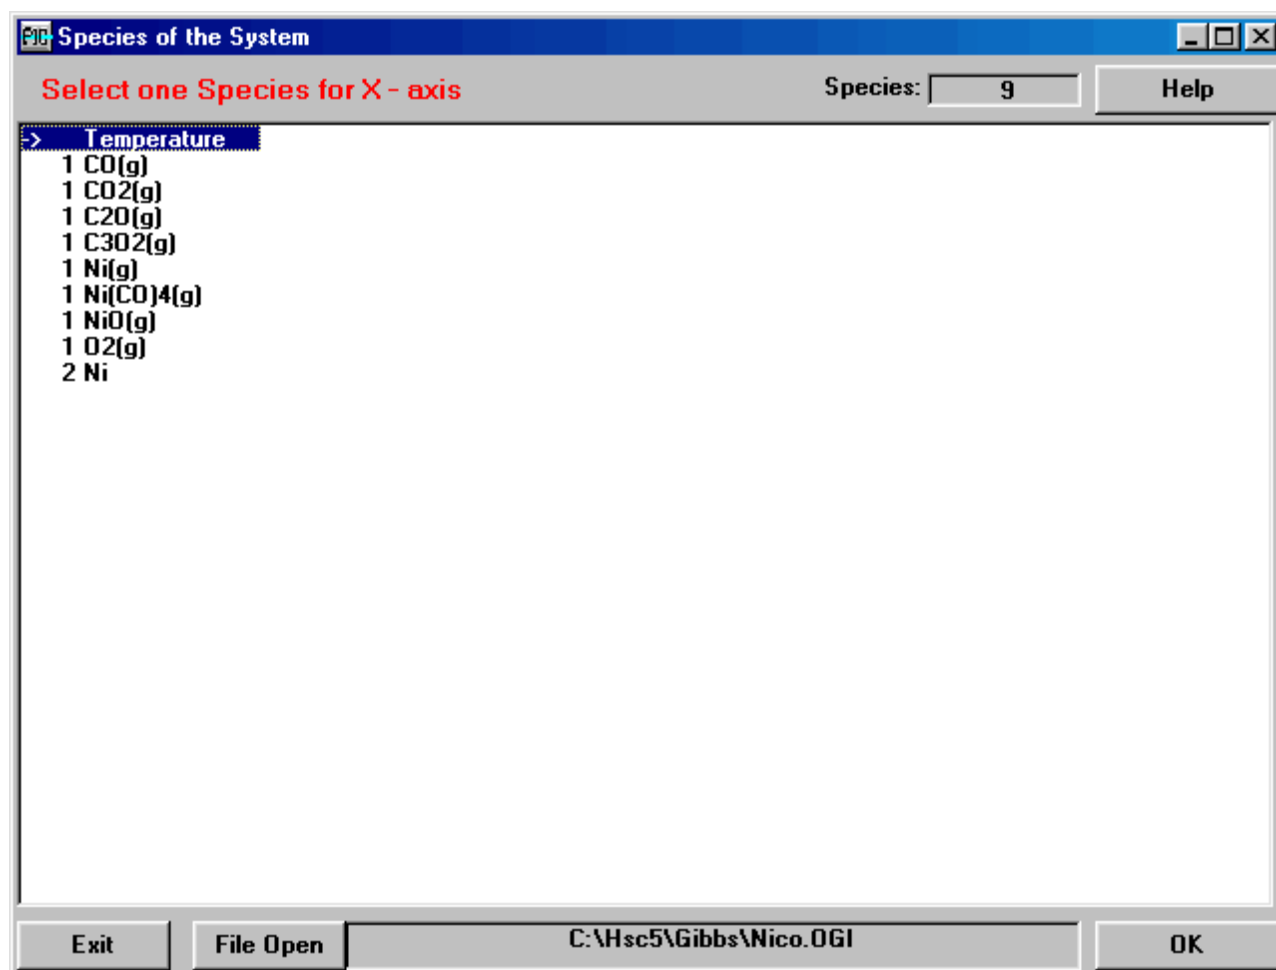

Fig. 8. Selecting the x-axis for an Equilibrium Diagram.
1. Select the *.OGI file for diagram by pressing **File Open** if not yet selected, see Fig. 8. This file contains the results of the equilibrium program.
2. Select the species or temperature for the **x-axis** by clicking the desired item in the list box using the mouse. The program shows the recommended selection with an arrow, which is the variable used in the calculations, see Fig. 8.
12. Press **Exit** to return the Species window, Fig. 8, or to exit the PIC program.